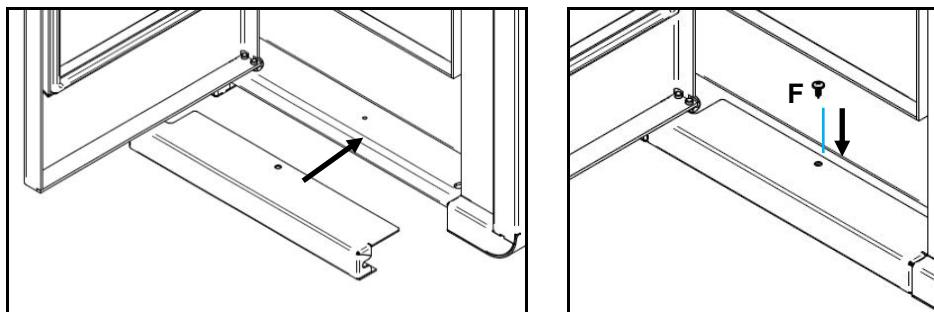

Figure 44 - Fixation of the lower cap of the Olive
- I) To finalize, mount the bottom cap of the equipment as shown in Figure 44, open the door and fit the lower cap piece on the base of the equipment, matching the drilling of the part with that of the equipment and then assemble it with a F screw (DIN 7981 4,2x13) or screw (ISO 3780 M5x12).